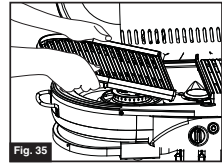

Fig. 35
2. Remove the cooking grates set aside. (Fig. 35)